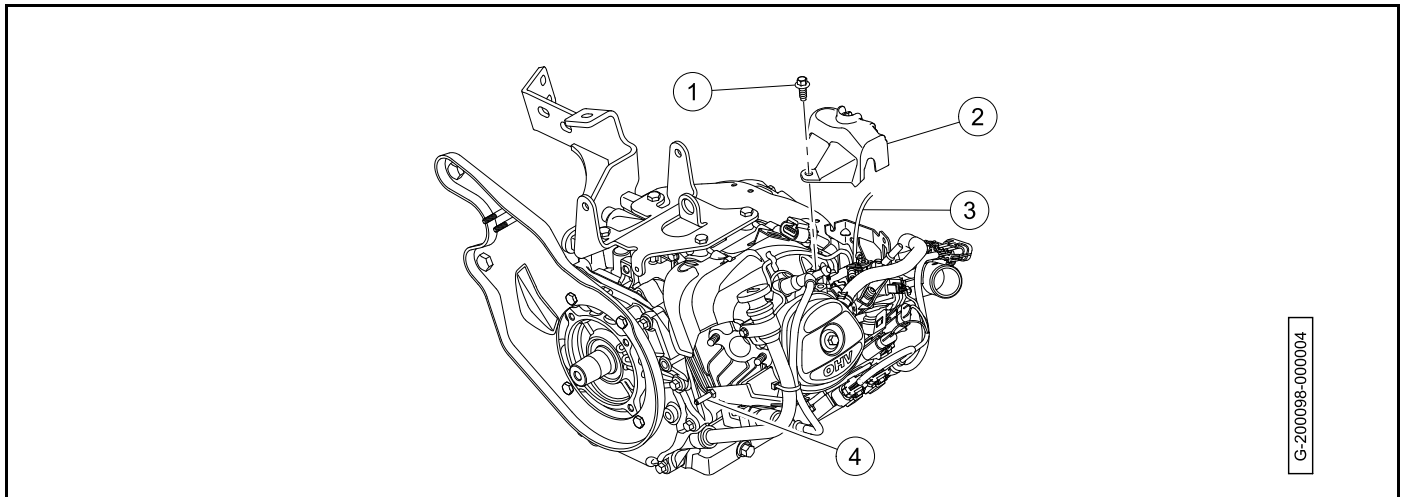

Figure 20-8 Governor Cover and Ground Cable Installation
16. Connect the ground cable to the engine (4) (**Figure 20-8, Page 20-7**).